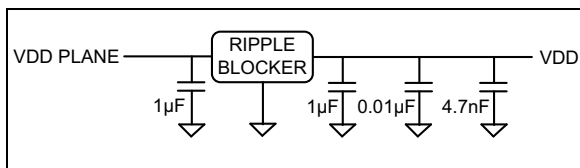

FIGURE 5-2: Power Supply Filtering with Ripple Blocker.
- To improve power supply filtering beyond what a ferrite bead can provide, the Ripple Blocker™ provides a solution. MIC94300 or MIC94310 are recommended parts. The filter circuit with Ripple Blocker is shown in Figure 5-2 and can be used for any of the above V_{DD} sections.